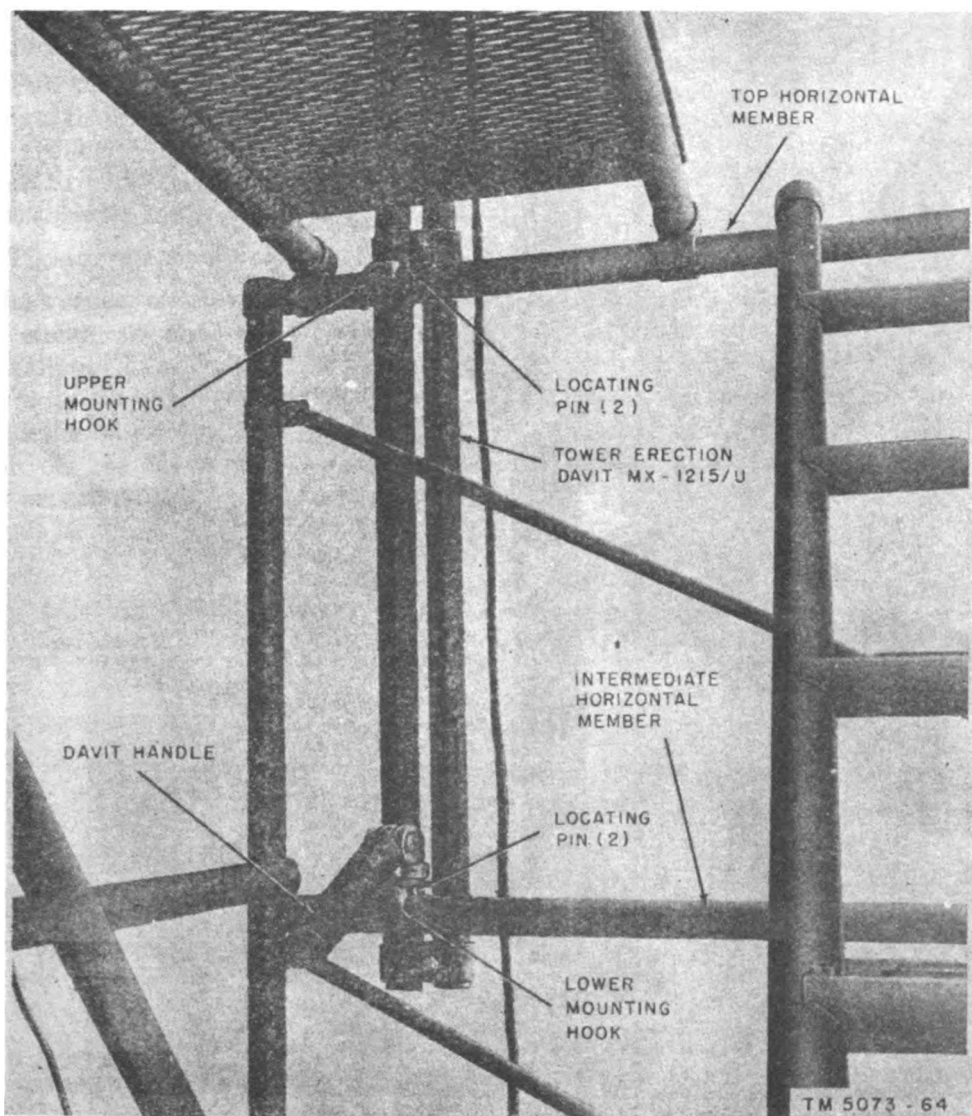
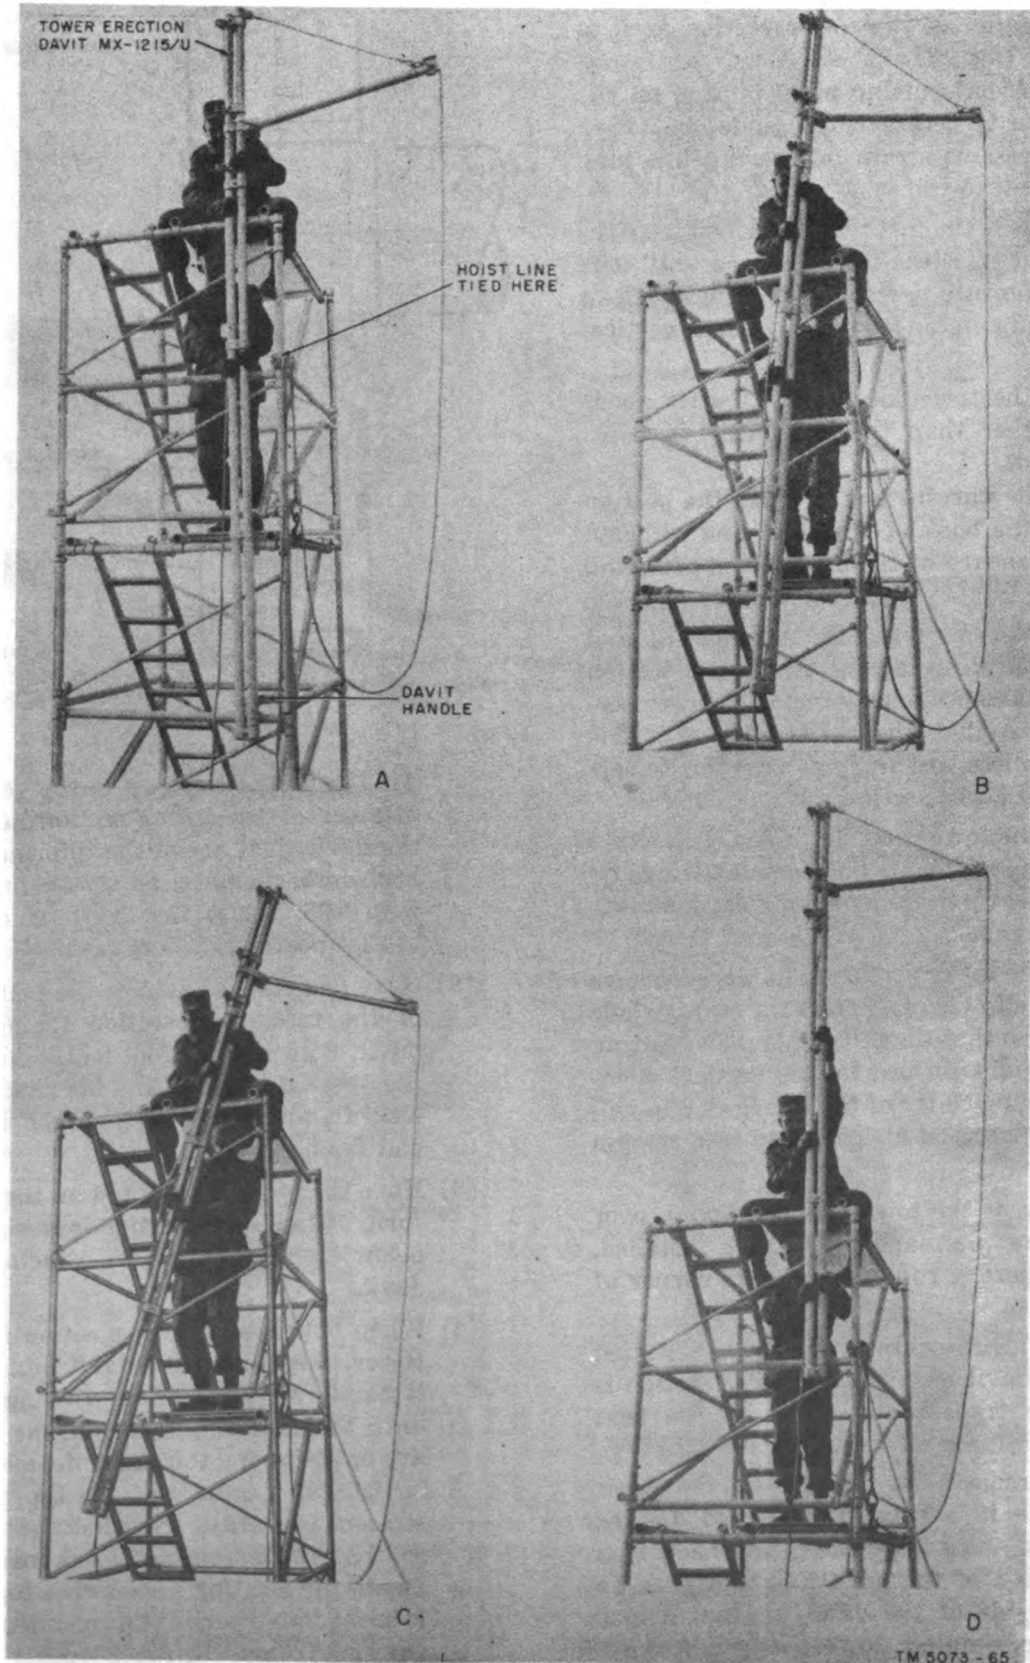

Figure 15. Normal davit installation, showing mounting hooks and locating pins.
Figure 25. Transferring davit.
- (2) **Installation.** Install the davit on the top and intermediate horizontal members of the end frame, behind and to the left of the ladder (fig. 15).
- (c) When both men are in position, lift the davit assembly and aline it, so that, the upper and lower mounting hooks of the davit are above the two locating pins on the top and intermediate horizontal members of the end frame (fig. 15).
- (d) Lower the davit until the mounting hooks engage the horizontal members between the locating pins as shown in figure 15, and D, figure 25.
- (1) Release the three cam locks (fig. 15) that attach the tube supporting the boom arm to the remainder of the davit.
- (2) Remove the hoist line from the rope guide on the lower portion of the davit.
- (3) Remove the interlock clip in the boom
Tie the end of the loop to the vertical member of the tower section nearest the davit, just above the intermediate horizontal member, as shown in A of figure 25. Place the davit handle in the up position.
- (2) Have one man sit astride the platform of the top tower section facing the davit, with his left foot locked around the vertical member and his right foot locked under the small diagonal on the end frame (A, fig. 25).
- (3) Have the other man stand on the platform of the tower section immediately below the top section, also facing the davit.
- (4) When both men are in position in the tower, they grasp the davit and raise it hand-over-hand (B and C, fig. 25) until the mounting hooks on the davit are opposite the top and intermediate horizontal members of the top tower section (fig. 15). Position the davit so that the mounting hooks rest between the locating pins on the top and intermediate horizontal members of the end frame (D, fig. 25).